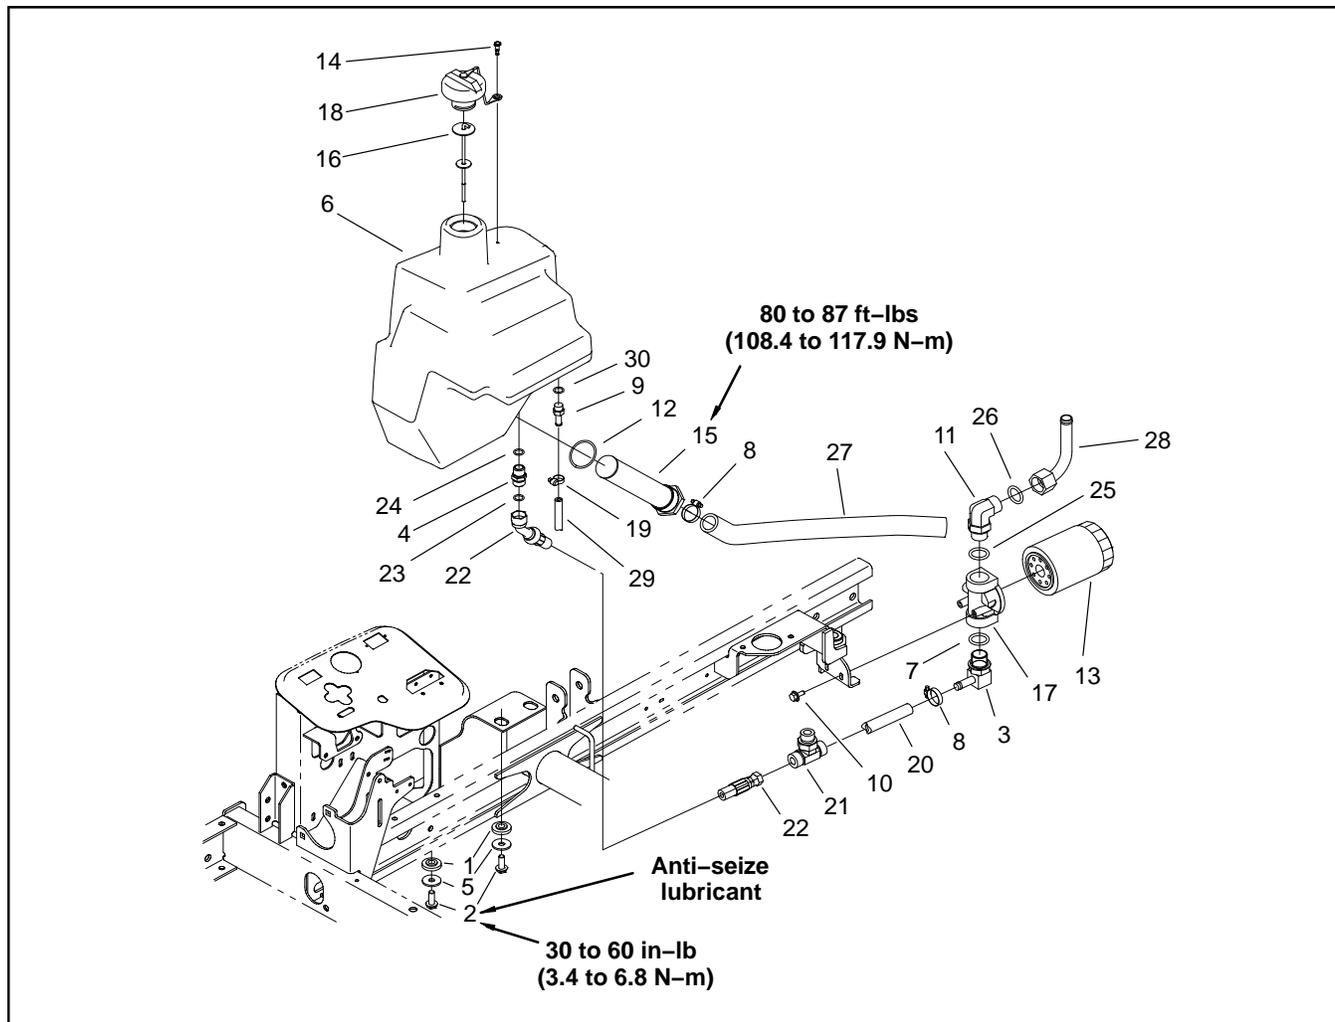

Figure 47
2. Remove hydraulic tank (Fig. 47). Discard and replace any O-rings that are removed.
Hydraulic Tank Inspection (Fig. 47)
1. Apply anti-seize lubricant or equivalent to the four (4) flange head screws that secure the hydraulic tank. Tighten the tank mounting screws from **30 to 60 in-lb (3.4 to 6.8 N-m)**. Install tank (Fig 47).